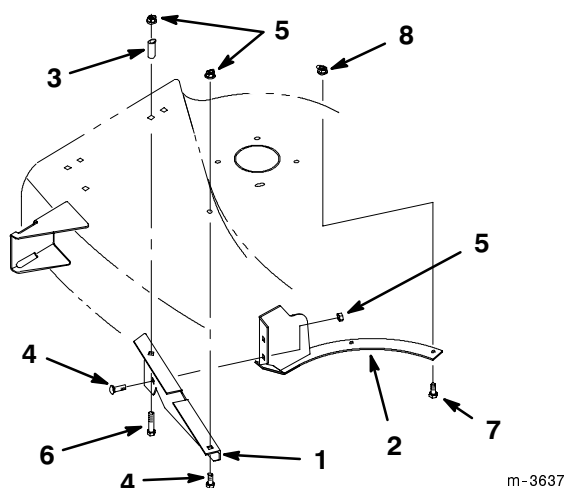

Figure 4
4. Attach the rear grass baffle to the grass ring with (2) 5/16 x 7/8" carriage bolts and (2) 5/16" lock nuts (Fig. 4).
5. Install the rear grass baffle and grass ring inside the discharge chute area. Secure the rear grass baffle to the mower with a 5/16 x 7/8" carriage bolt and a 5/16 x 2-1/2" carriage bolt. Add the latch tube above the deck and secure with (2) 5/16" locknuts. Secure the grass ring to the mower with (2) 1/4 x 3/4" bolts and (2) 1/4" locknuts (Fig. 4).